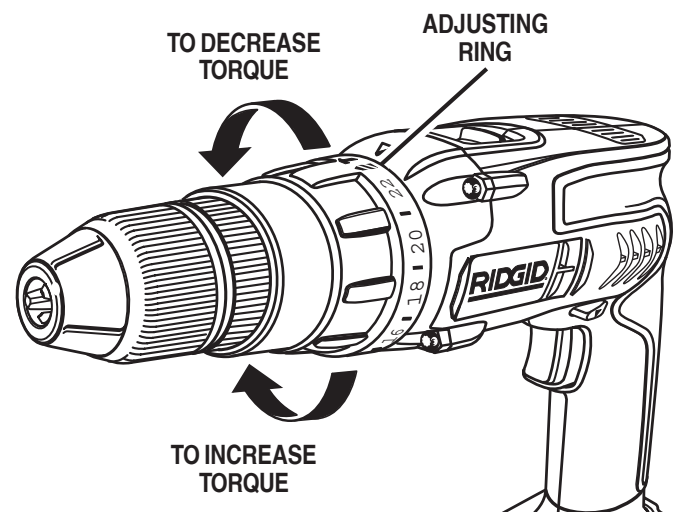

Fig. 13
- Identify the twenty four torque indicator settings located on the front of the drill. See Figure 13.
- 21 - 23 (W) For heavy drilling.